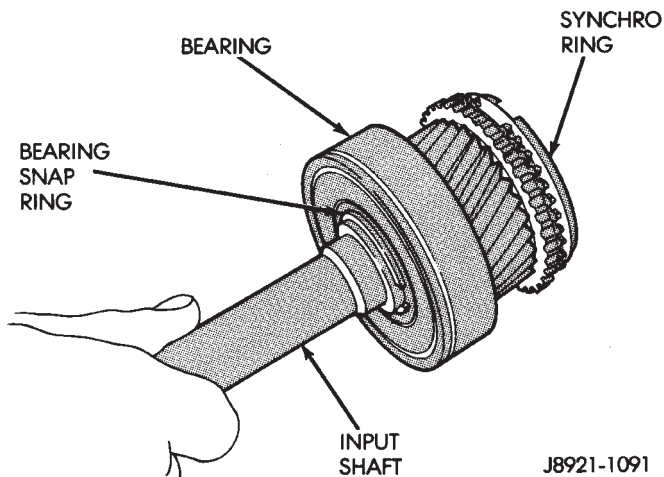

Fig. 98 Input Shaft Components
(3) Remove the output shaft pilot bearing rollers from the input shaft and the output shaft.
(4) Remove the fourth gear synchronizer ring from the input shaft (Fig. 98).